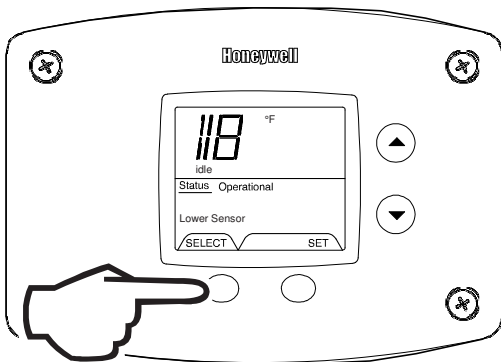

Fig. 46
3. For water heaters using two temperature sensors, pressing the 'Select' button again displays the Lower Sensor temperature reading. 'Lower Sensor' will be displayed in the lower left side of the status window of the water heater display (Fig. 46).